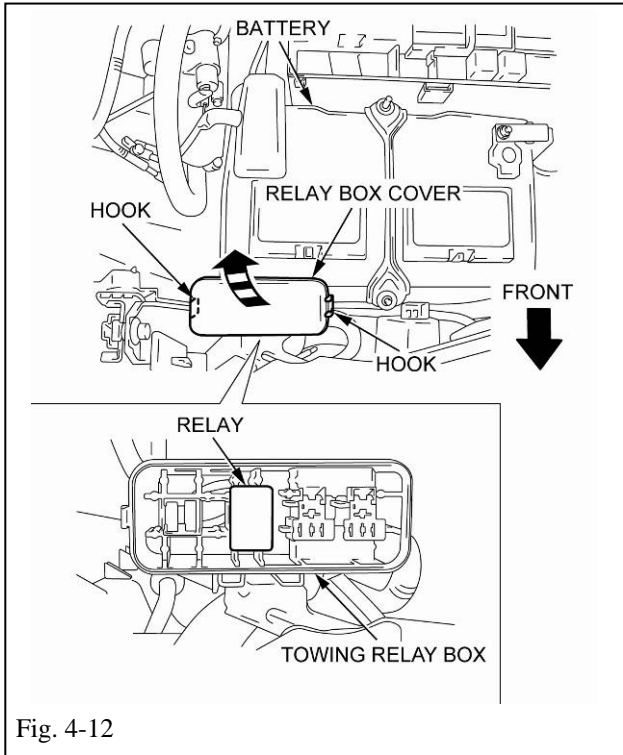
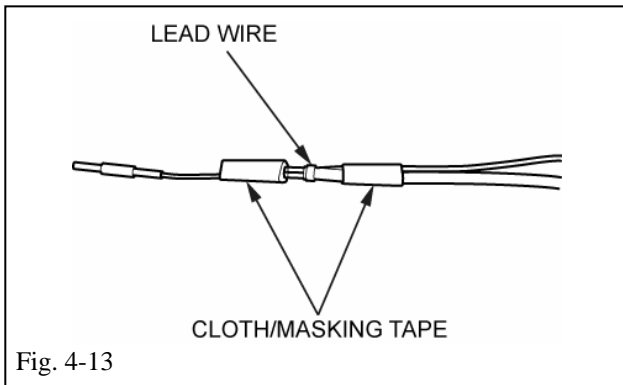

Fig. 4-12
Fig. 4-13
(1) Install the battery charge relay to position in the figure on the right. (Fig. 4-12)
(2) Pay attention to the following points when handling the battery charge relay.
(n) Wrap the three (3) lead wires of the E/G R W together using cloth/masking tape. (Fig. 4-13)